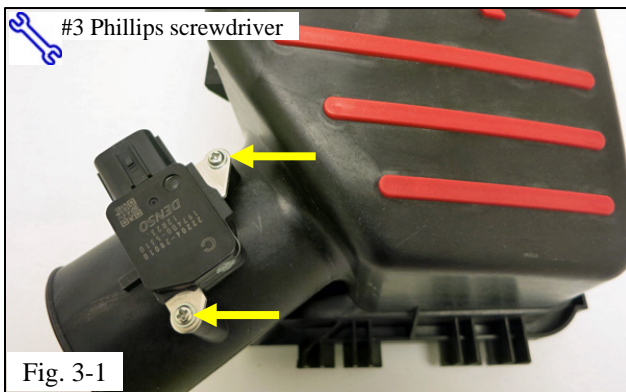

Fig. 3-1
- (a) On a workbench, install the mass airflow sensor into the TRD air box (Fig. 3-1).